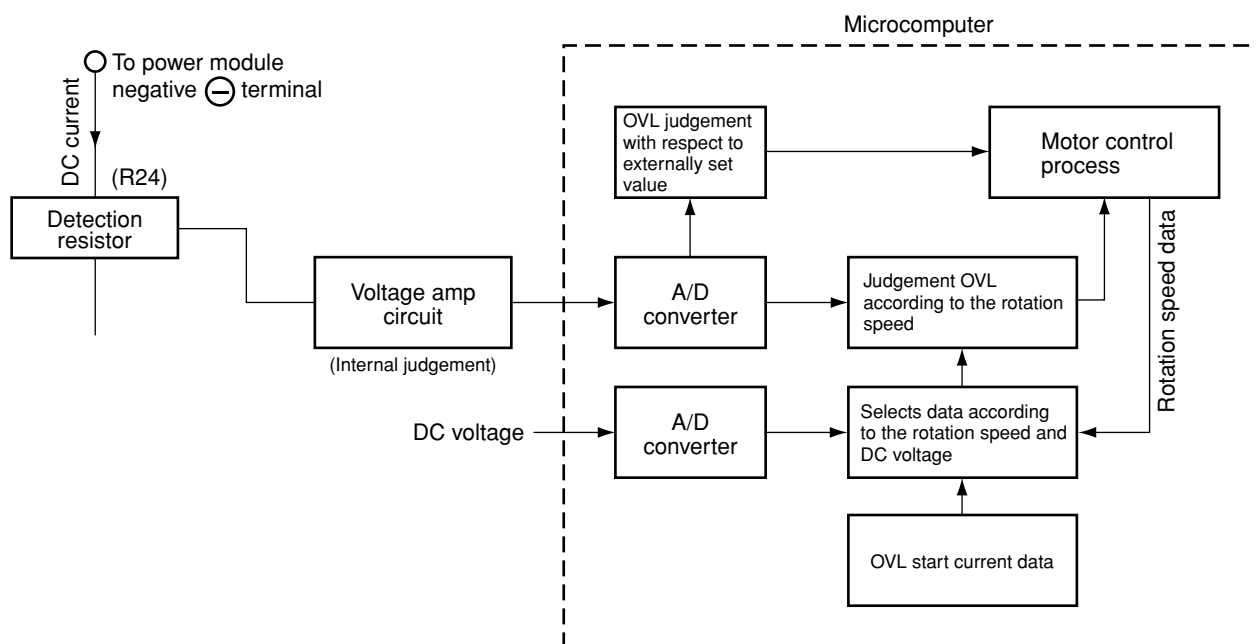
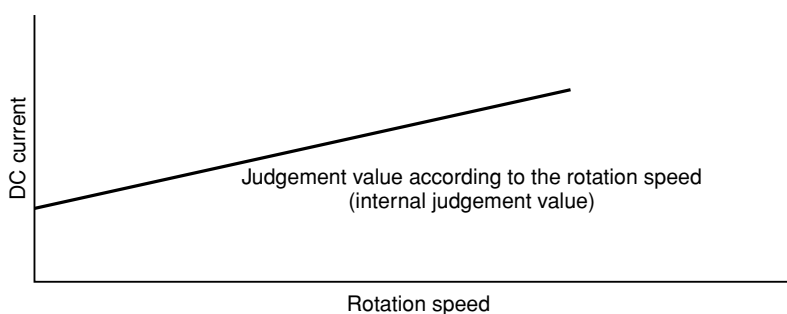

Fig. 8-4 Overload Control System Configuration
Fig. 8-5
- As shown in diagram, if current exceeding 27A flows, voltage at point (A) recognized by detecting resistor is input to pin ⑩ of SPM2 – HIC, and voltage divided by R41 and R43 is input to pin ⑨ of IC1. Since threshold of IC1 is exceeded in this case, Lo signal is input from pin ⑧ (Voltage at point (B) . When Lo signal is input to pin ⑰ of microcomputer, microcomputer stops drive output.
(2) Overload control circuit (OVL control circuit)
- Fig. 8-4 shows the overload control system configuration and Fig. 8-5 is a characteristic diagram of overload judgement values. There are two judgement methods-external judgement which compares the externally set value with the DC current value regardless of the rotation speed and internal judgement which compares the set value that varies according to the rotation speed programmed in the microcomputer software with the DC current value.